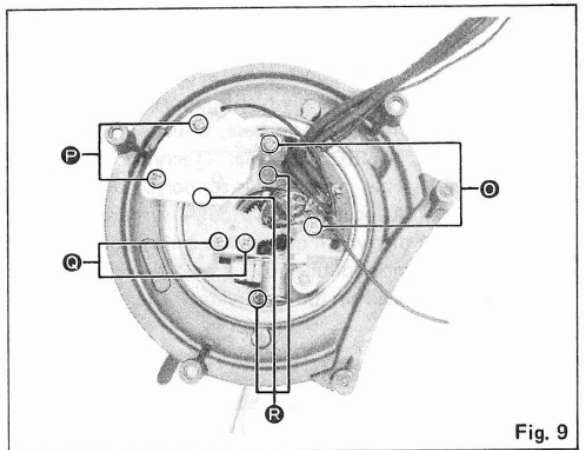

Fig. 9
18. Remove 2 screws **O** of the phono cord p.c.b. as shown in fig. 9.
19. Remove 2 screws **P** as shown in fig. 9.
20. Remove 2 screws **Q** of the silicon oil dumper as shown in fig. 9.
21. Remove 3 screws **R** as shown in fig. 9.